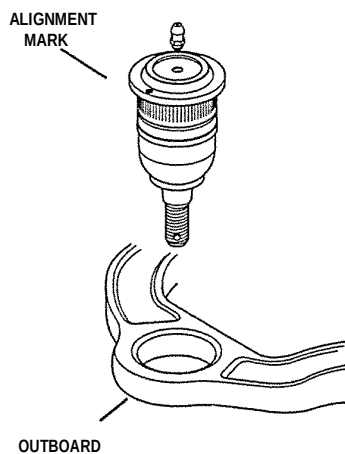

FIGURE 1
- Position the new ball joint in the upper control arm with the drilled-hole alignment mark facing outboard toward the wheel (SEE FIGURE 1).